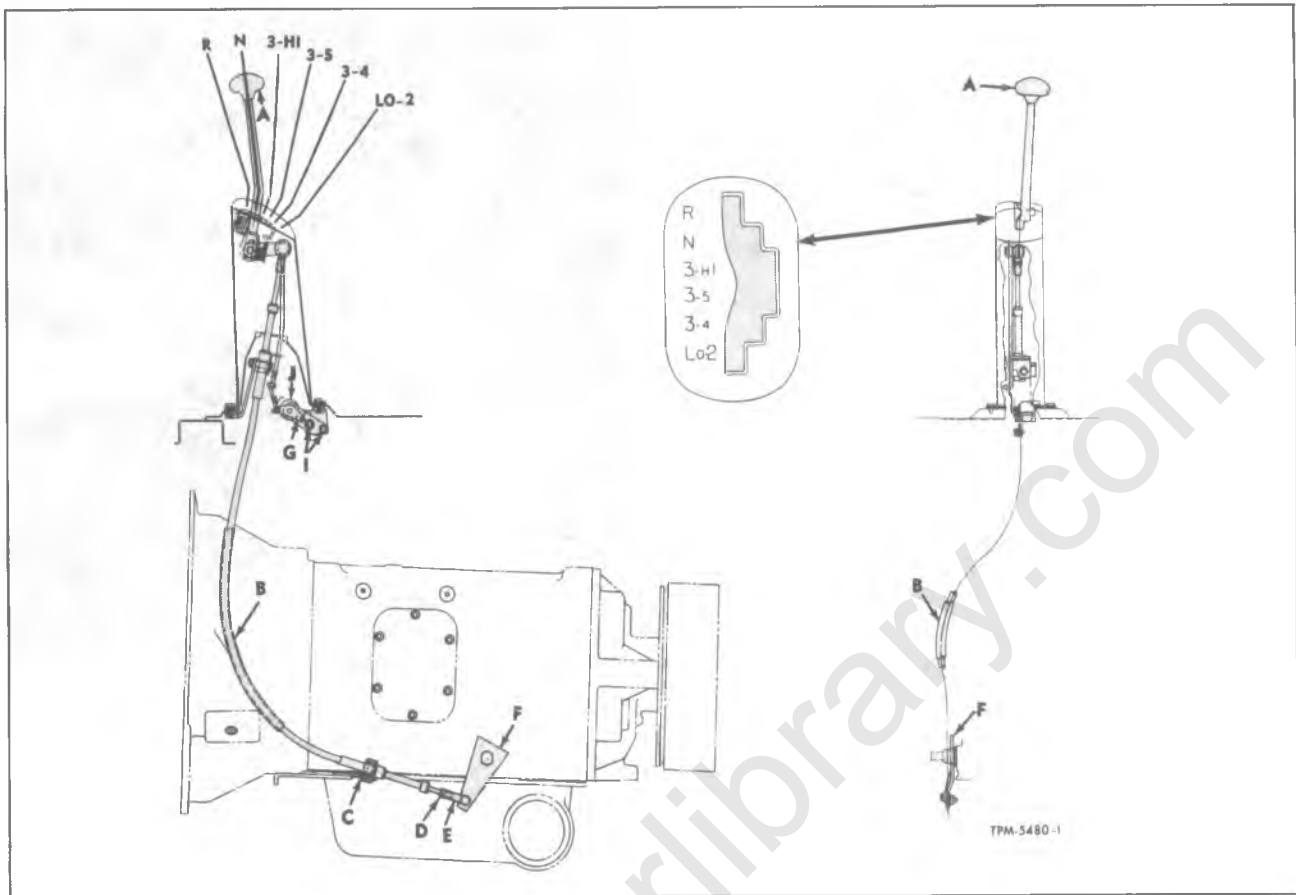

Figure 15—Manual Range Selector Linkage (ME60)
2. To facilitate installation of TV Linkage Adjustment Gauge (J-23739), disconnect manual selector linkage at transmission by removing clevis pin from shift lever (F, fig. 15).
11. Remove gauge from transmission and connect clevis (E, fig. 15) to shift lever (F).
(Refer to Figs. 15 and 16)
Manual Selector Linkage Adjustment -ME60 (Refer to Fig. 15)
Adjustment Procedure - ME60 (Refer to Fig. 15)